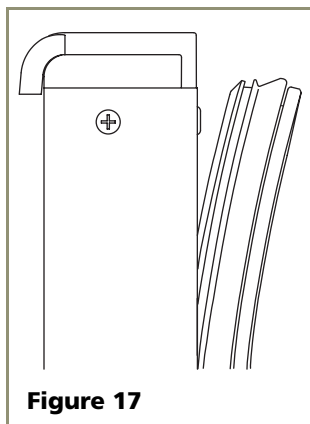

Figure 17
2. Pull door gasket out of the groove (top edge of door only). Start in the middle and pull outward, moving toward the edge (see **Figure 17**). This may take some force.